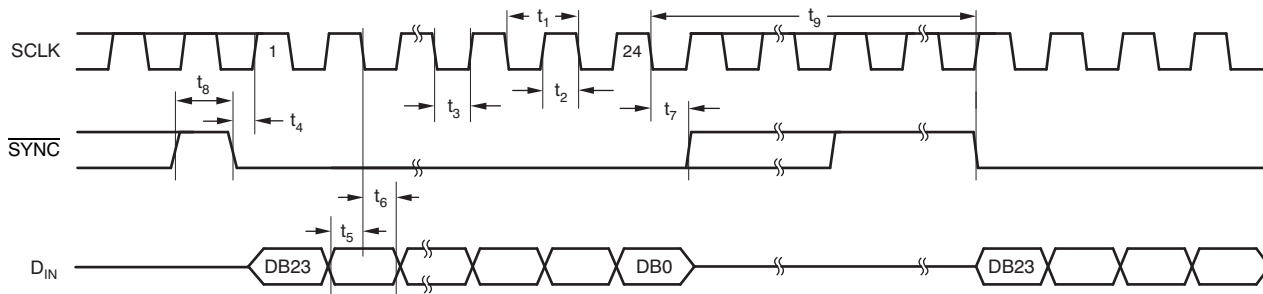

Figure 1. Serial Write Operation
- (1) All input signals are specified with $t_R = t_F = 5\text{ ns}$ (10% to 90% of V_{DD}) and timed from a voltage level of $(V_{IL} + V_{IH}) / 2$.
(2) See Figure 1.
(3) Maximum SCLK frequency is 30 MHz at $V_{DD} = 3.6\text{ V to }5.5\text{ V}$ and 20 MHz at $V_{DD} = 2.7\text{ V to }3.6\text{ V}$.